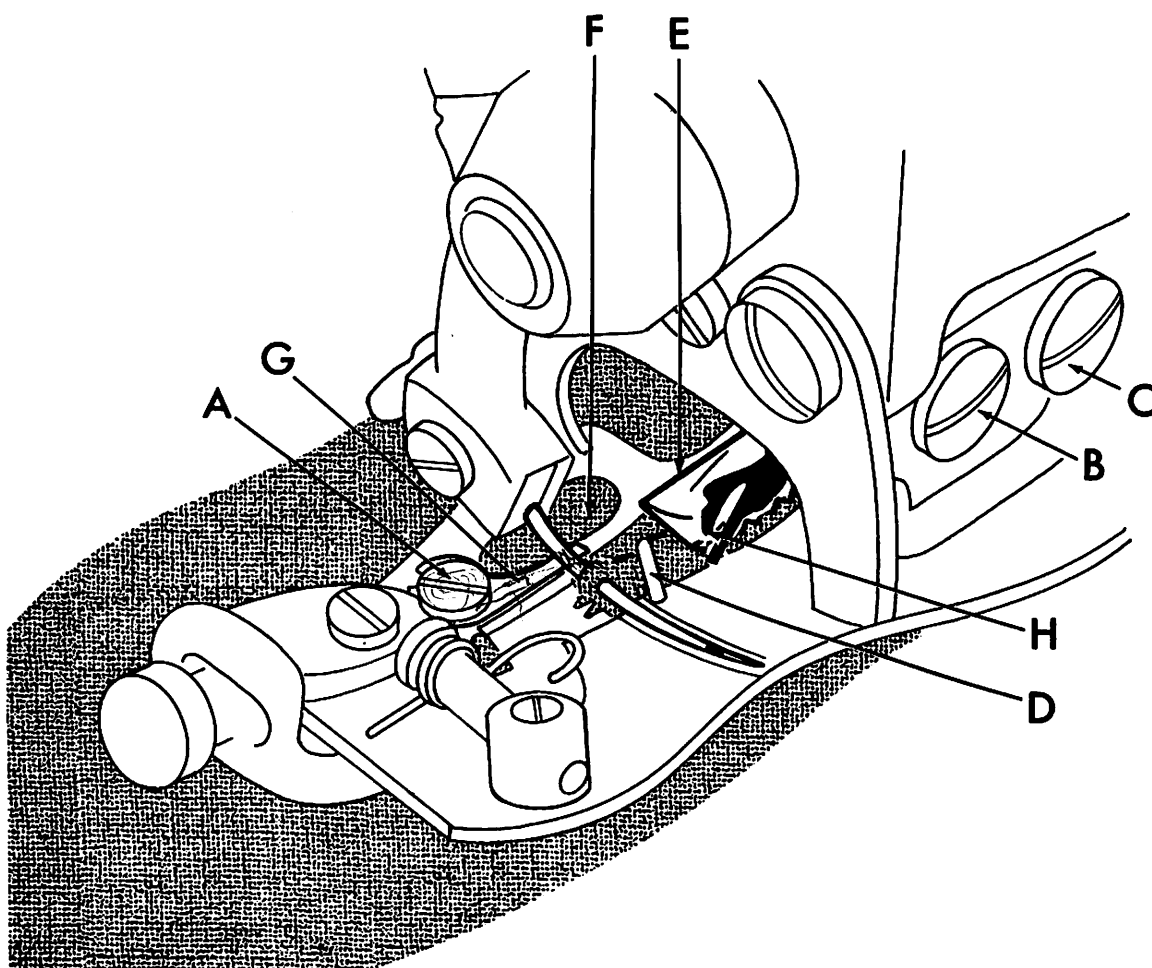
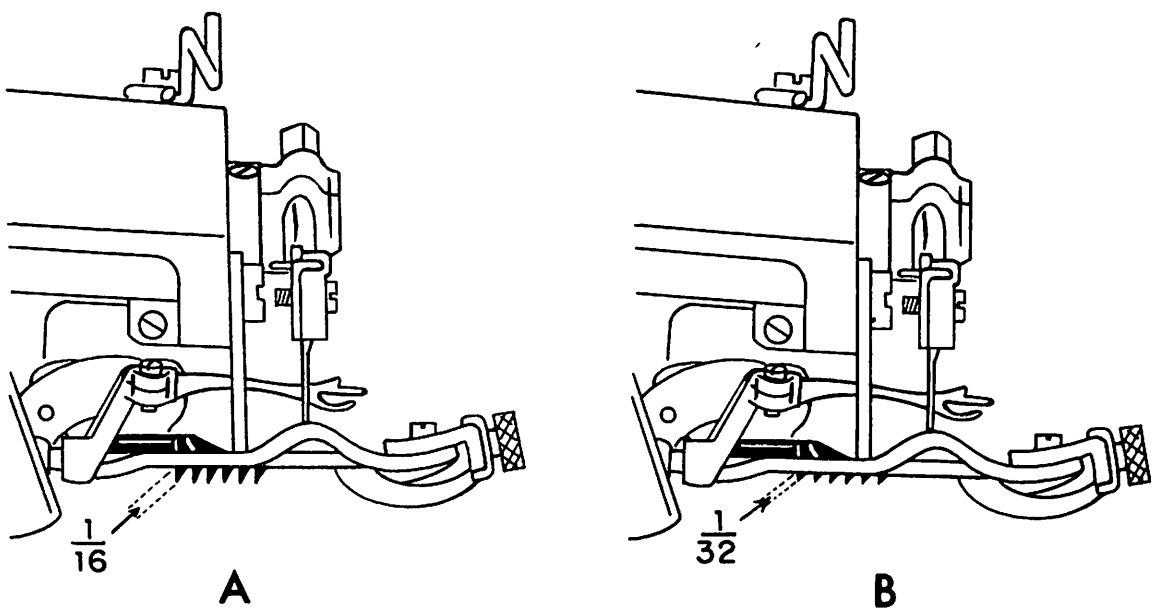

FIGURE 9
FIGURE 10
2. Loosen the needle guide attaching screw (item "A" in Figure 9) and remove the worn needle guide. Clean out any lint or dirt that may have accumulated under the old guide and insert the new guide. Insure that the new guide is seated flush with the top and side of the presserfoot and then retighten the attaching screw. Slowly turn the handwheel in the direction away from the operator and check to insure that the new guide fits properly under the needle and that no interference has been introduced between the guide and the looper.
9. After all the necessary adjustments have been made, tighten all set screws and the lock nut and recheck all the adjustment points. Referring to Figure 9 the looper should now clear the chain-off pin ("D"), feeder ("E"), looper slot ("F"), needle, and pass over the needle in the correct position to pick up the loop.
1. After considerable service, it may be expected that the wearing action of the needle will cause a sharp edged groove to form on the needle guide (item "G" in Figure 9).
1. In the event that the machine develops difficulty by failing to properly feed the work, a worn feeder is frequently found to be the cause. After considerable service, especially with certain hard fabrics, the feeder teeth have a tendency to become dull, and the feeder should be replaced. In order to remove the old feeder, remove the front feeder attaching screw (item "B" in Figure 9) and loosen the rear feeder attaching screw (item "C" in Figure 9). The old feeder may then be slid out of place. Insert the new feeder under the rear screw and replace the front screw.
2. Before tightening the attaching screws check to see that the feeder is set to the proper depth. Referring to Figure 10 this should be approximately $\frac{1}{32}$ " (.795mm) below and parallel to the bottom of the presserfoot for all light and medium weight fabrics. For heavy fabrics, the setting should be approximately $\frac{1}{16}$ " (1.59mm) below and parallel to the bottom of the presserfoot. These dimensions are intended as guides and may be modified as required by the specific fabrics. Once the proper depth is established, rotate the handwheel slowly in a direction away from the operator and check to insure that the feeder clears the looper (see Figure 9, Point "H") and also clears both sides of the feeder slot in the presserfoot. Firmly tighten feeder attaching screws (Figure 9, Items "B" & "C") before resuming sewing.